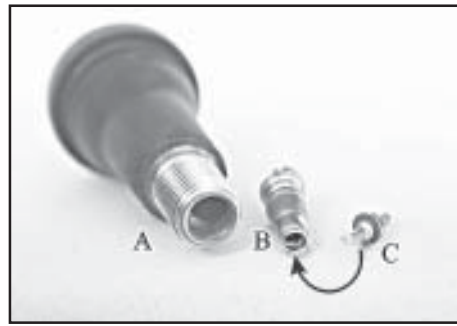

Figure 4 Air passages
The dissected valve core and stem show why airing up and down are faster without the core. The air simply has a bigger, less restricted hole to move through. Figure 4, A shows an unrestricted valve stem hole. B shows a valve core passage. Besides being smaller, flow is further encumbered by the valve shaft and face (C) that normally resides in the hole.